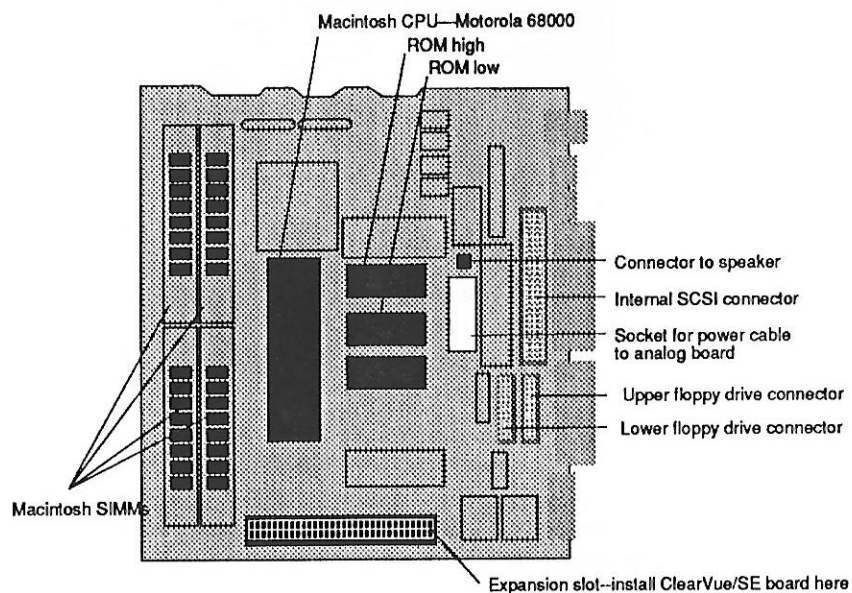

Figure 8: the Macintosh SE main logic board
1. Locate the Macintosh SE ROMs near the center of the SE motherboard. Notice that on the motherboard, near the ROM sockets are the words "ROM HIGH" (342-0352) and "ROM LOW" (342-0353). Figure 8 shows the locations of both ROMs on the Macintosh SE motherboard.